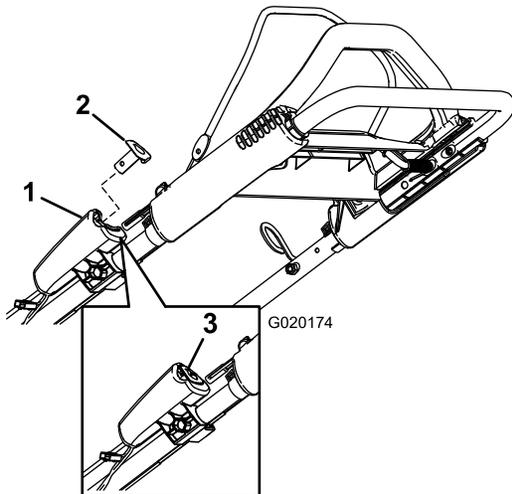
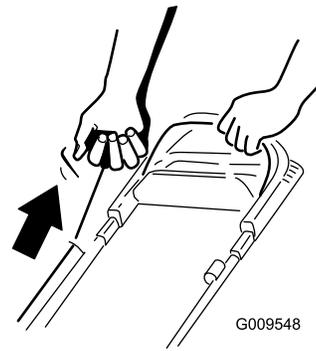

Figure 18
Figure 19
2. Push the electric-start button (electric-start model only; refer to Figure 18) or pull the recoil-start handle (Figure 19).
**Note:** If the electric-start button has been removed, insert it into the electric starter; refer to Figure 18 (electric-start model only).
**Note:** When you pull the recoil-start handle, pull it lightly until you feel resistance, then pull it sharply (Figure 19). Allow the rope to return to the handle slowly.